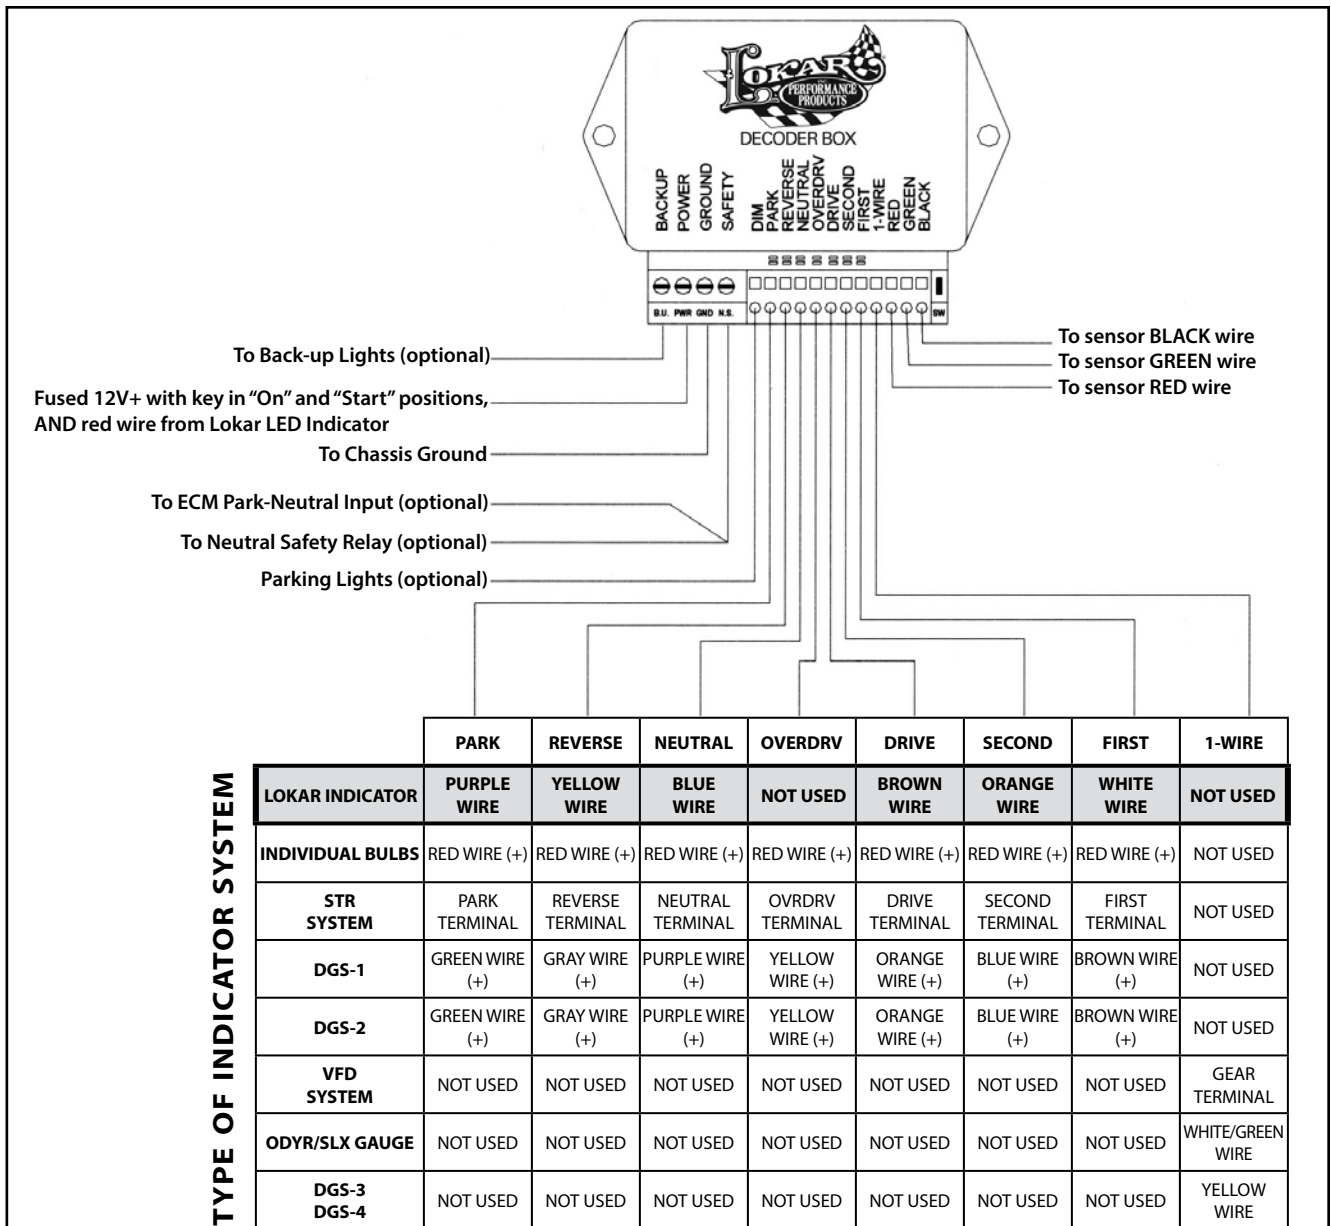

Fig. 17
Connect a solid chassis ground to the "GROUND" terminal on the decoder box. Fig. 17
Step 25: Following the wiring diagram in **Fig. 17**, connect the rest of the wires from the LED indicator to the decoder box.